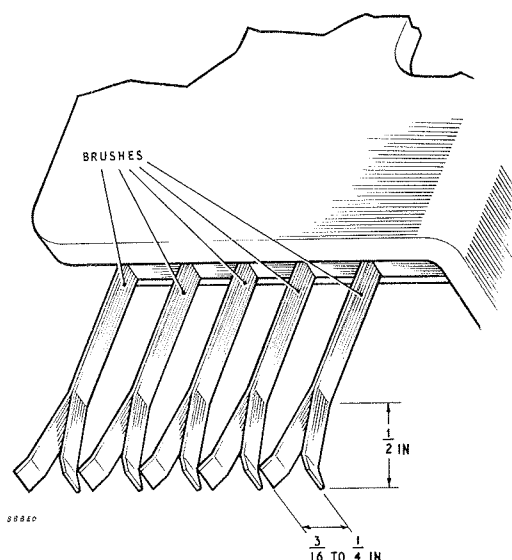

FIG. 4.
5.1 Non-self-feed Type The two springs of each brush should lie flat against each other from their base to a point $\frac{1}{2}$ in from the tips. From this point, set the tips of the two springs outwards so that there is a space of $\frac{1}{16}$ in to $\frac{1}{4}$ in between the tips (see Fig 4).
Figs 4 and 5 follow